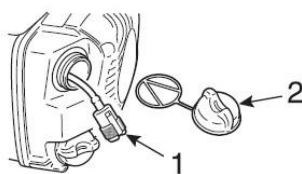

Fig. 19
WARNING! If the motor of the chainsaw fails to start, check the fuel filter (Fig. 19-①) and if it is blocked replace it.
1. Unscrew the fuel tank cap (Fig. 19-②).
2. Remove the fuel filter (Fig. 19-①) from the tank with a metal hook.
3. Clogged fuel filter	3. Replace the fuel filter (Fig. 19-①) with a new one (see section "FUEL FILTER")